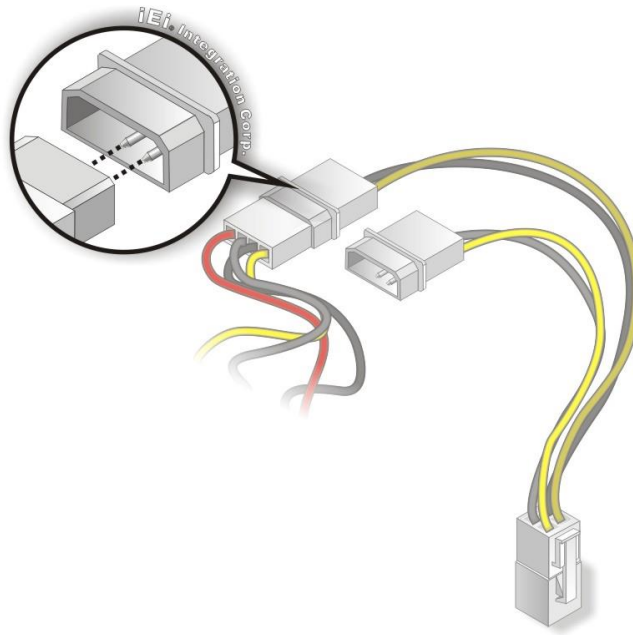

Figure 4-10: Connect Power Cable to Power Supply
Step 3: Connect power cable to power supply. Connect one of the 4-pin (1x4) Molex type power cable connectors to an AT power supply. See Figure 4-10.